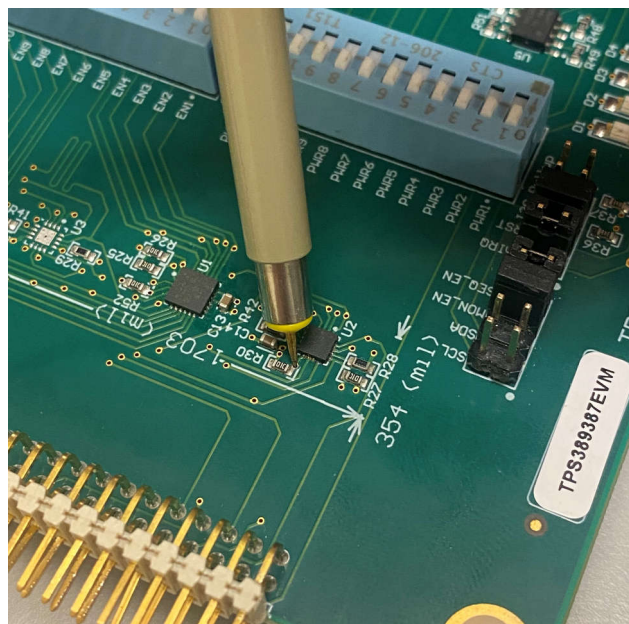

Figure 4-7. Sync Signal Probe
- f. Figure 4-7 shows where to place the oscilloscope probe on the EVM to view the sync signal. Place the probe on the terminal of R30 closest to device U2.